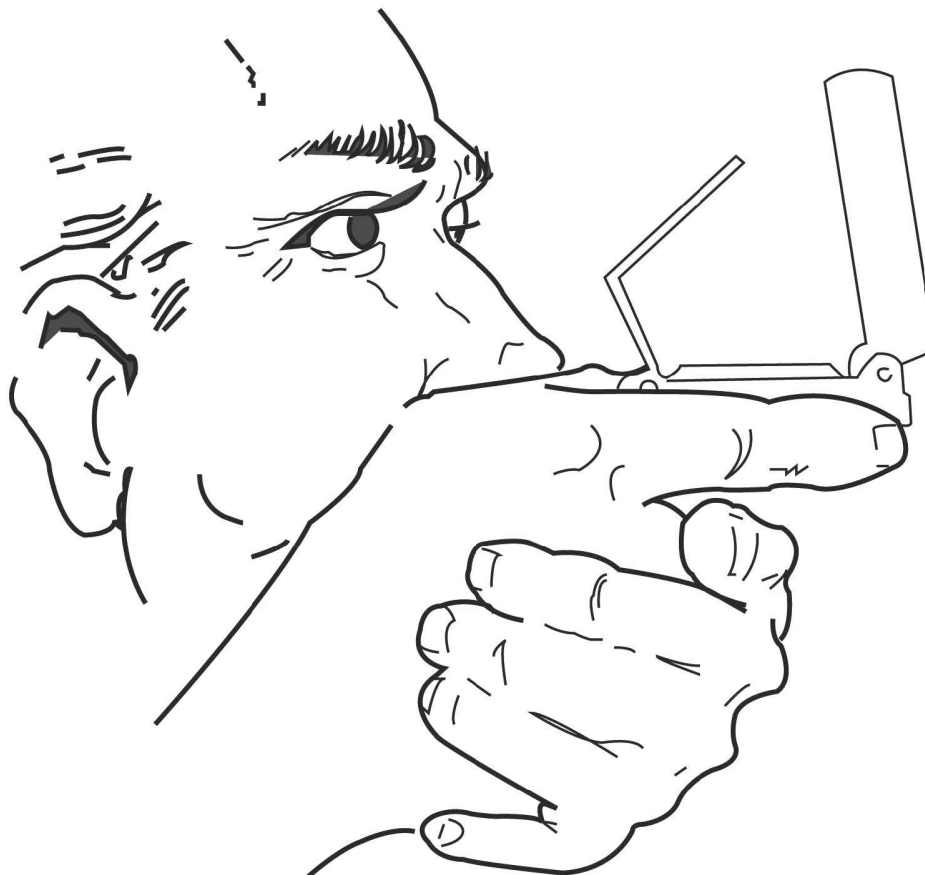

Figure 3. Compass-to-cheek method.
3. Determine an azimuth with the compass-to-cheek method (Figure 3).